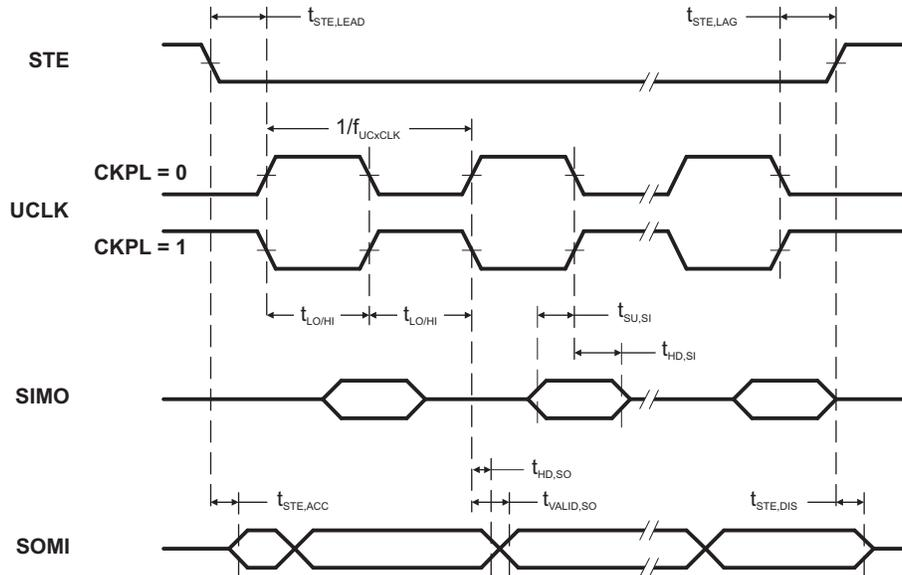
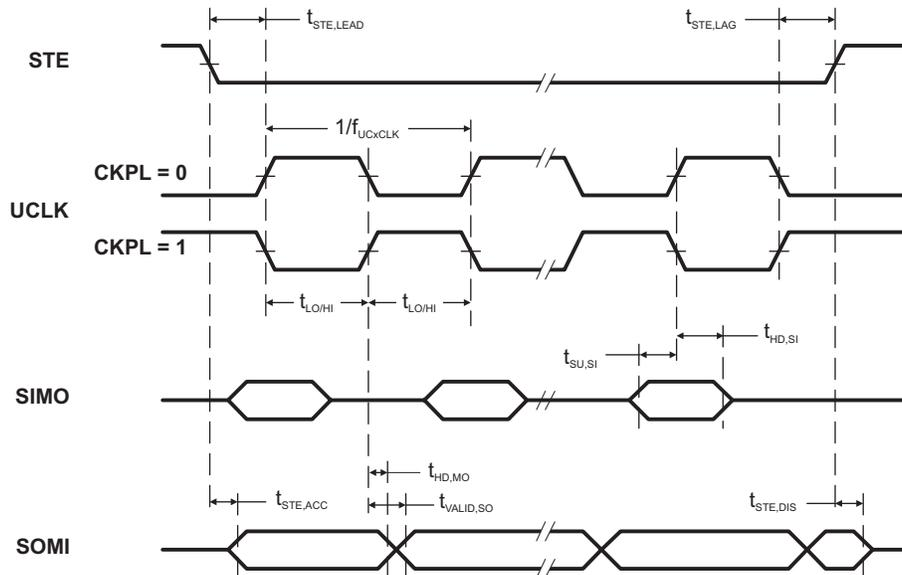

Figure 13. SPI Slave Mode, CKPH = 0
Figure 14. SPI Slave Mode, CKPH = 1
(see Figure 13 and Figure 14)
- (2) Specifies the time to drive the next valid data to the SOMI output after the output changing UCLK clock edge. See the timing diagrams in Figure 13 and Figure 14.
- (3) Specifies how long data on the SOMI output is valid after the output changing UCLK clock edge. See the timing diagrams in Figure 13 and Figure 14.